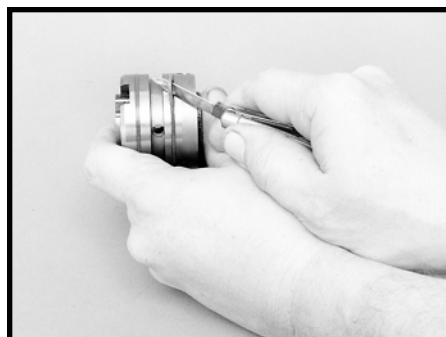
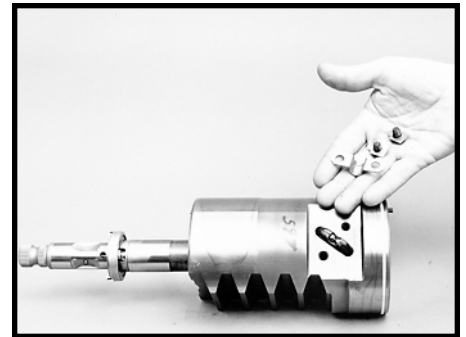

Figure 68
Figure 72
30. Remove and discard the two Teflon seal rings (12) from valve sleeve (14). SEE FIGURE 68.
33. For rack pistons with the ball return guide clip (46A), bend the tangs down that are on the clip or on the two locking tabs (47A). SEE FIGURE 68. Remove the two hex head bolts (47B), lock tabs and clip. Discard lock tabs. SEE FIGURE 72. 1/2 inch hex socket required.